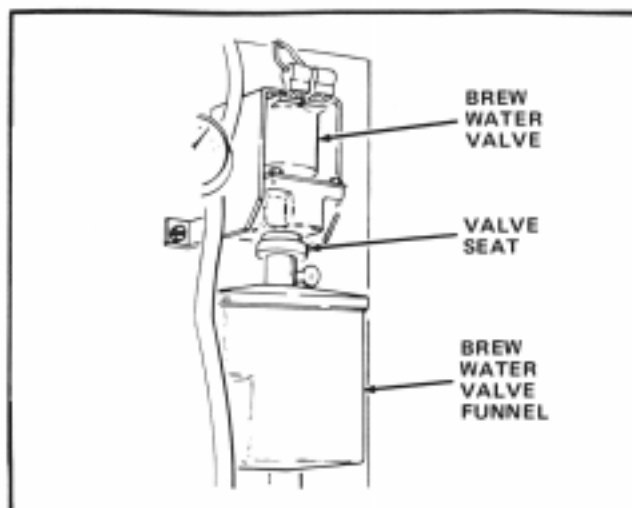

FIGURE 1
7. Loosen the Ring Nut that secures the Valve Seat to the Brew Water Valve and remove the Valve Seat from the Water Valve. See Figure 1.